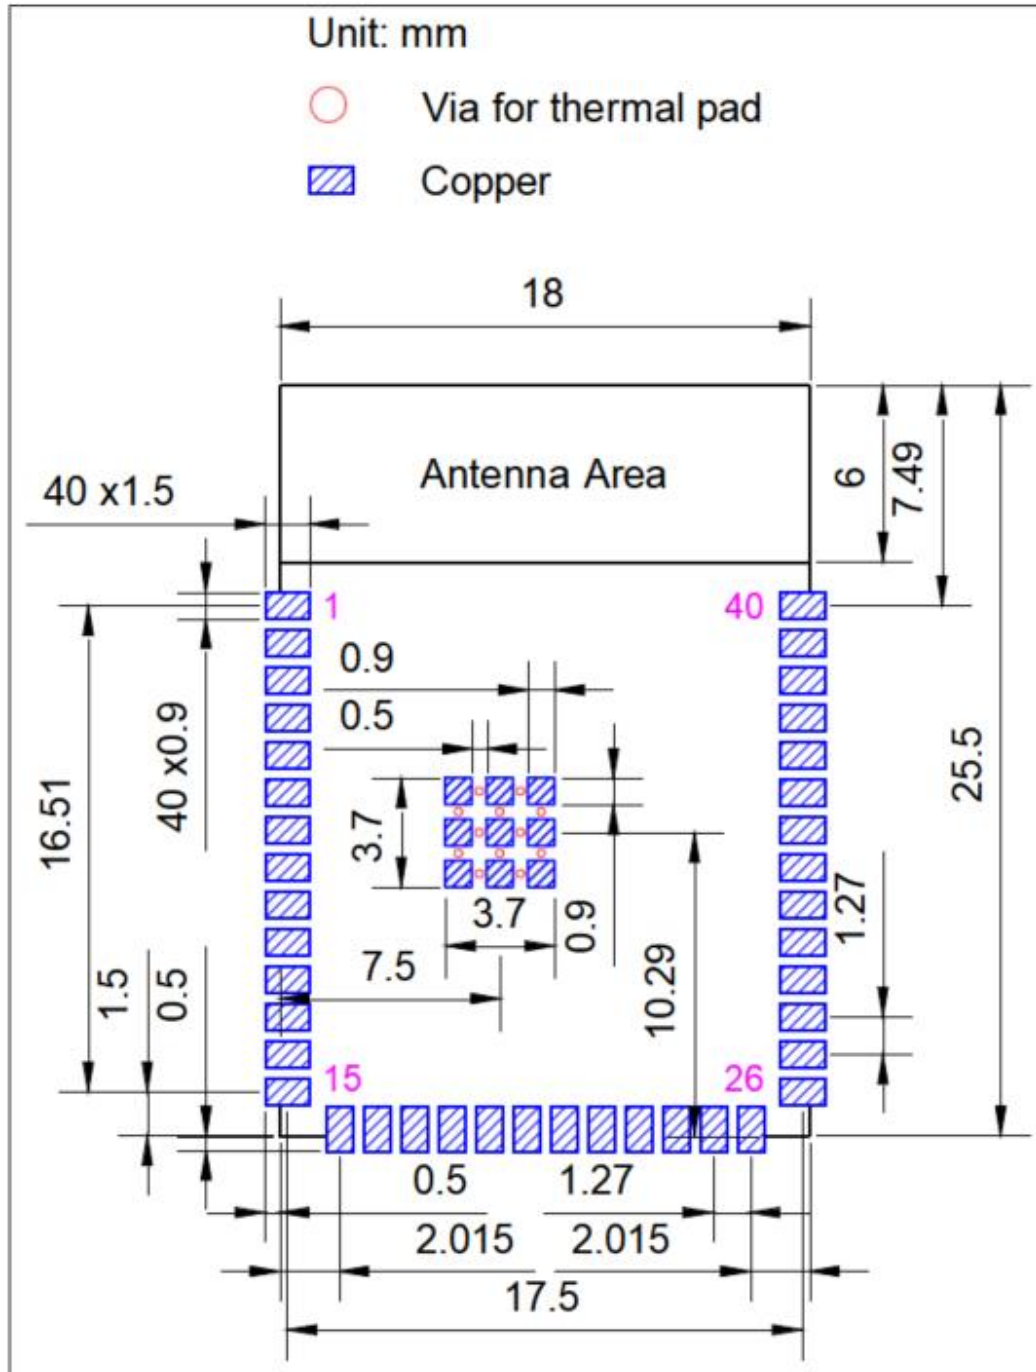

Figure 11: GEE811 Recommended PCB Land Pattern
- Figures for recommended PCB land patterns with all the dimensions needed for PCB design. See Figure 11 GEE811 Recommended PCB Land Pattern.